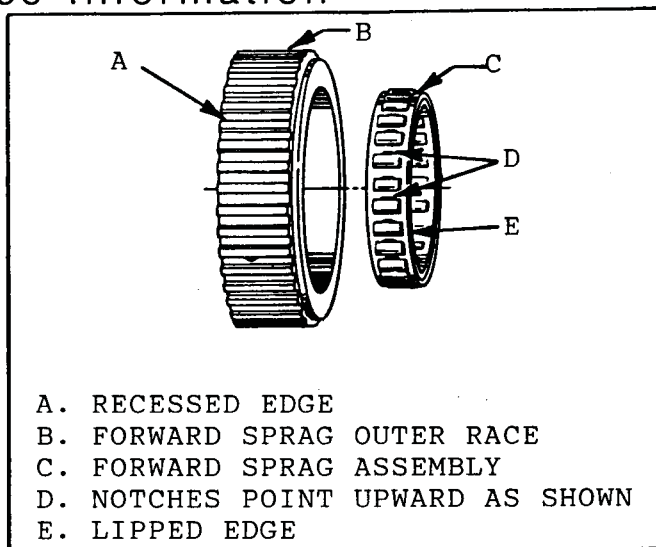

Figure 83
2. Install forward sprag assembly into outer race from the side opposite the recess (See Figure 83).
3. The notches in the sprag assembly cage must face upward as shown in Figure 83.